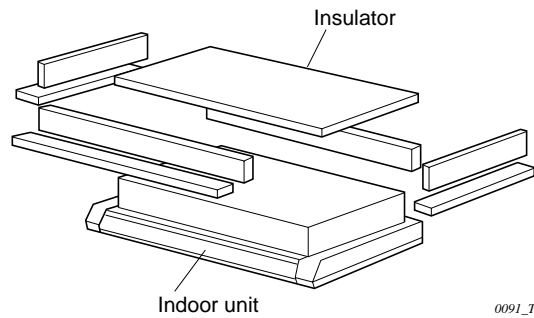

Fig. 3-75
- (3) Place insulation (thickness: 10 mm min.) around the embedded part of the indoor unit to prevent dripping from the ceiling. (Fig. 3-75)
- (4) For the rest of the suspension procedure, refer to steps (1) to (5) of section 3-21. Suspending the Indoor Unit.
- (5) Adjust the double hex nuts to level the unit. Afterward, tighten the second hex nut of each pair to permanently secure the unit.
In some cases the ceiling may not be consistently level, leaving gaps between the indoor unit and the ceiling face. This can allow the entrance of humid air into the room, and thus degrade the air conditioner's performance. To prevent this, leave a clearance of 1 cm between the ceiling face and the indoor unit and fill the gap with an appropriate insulation or filler material. (Figs. 3-75 and 3-76)